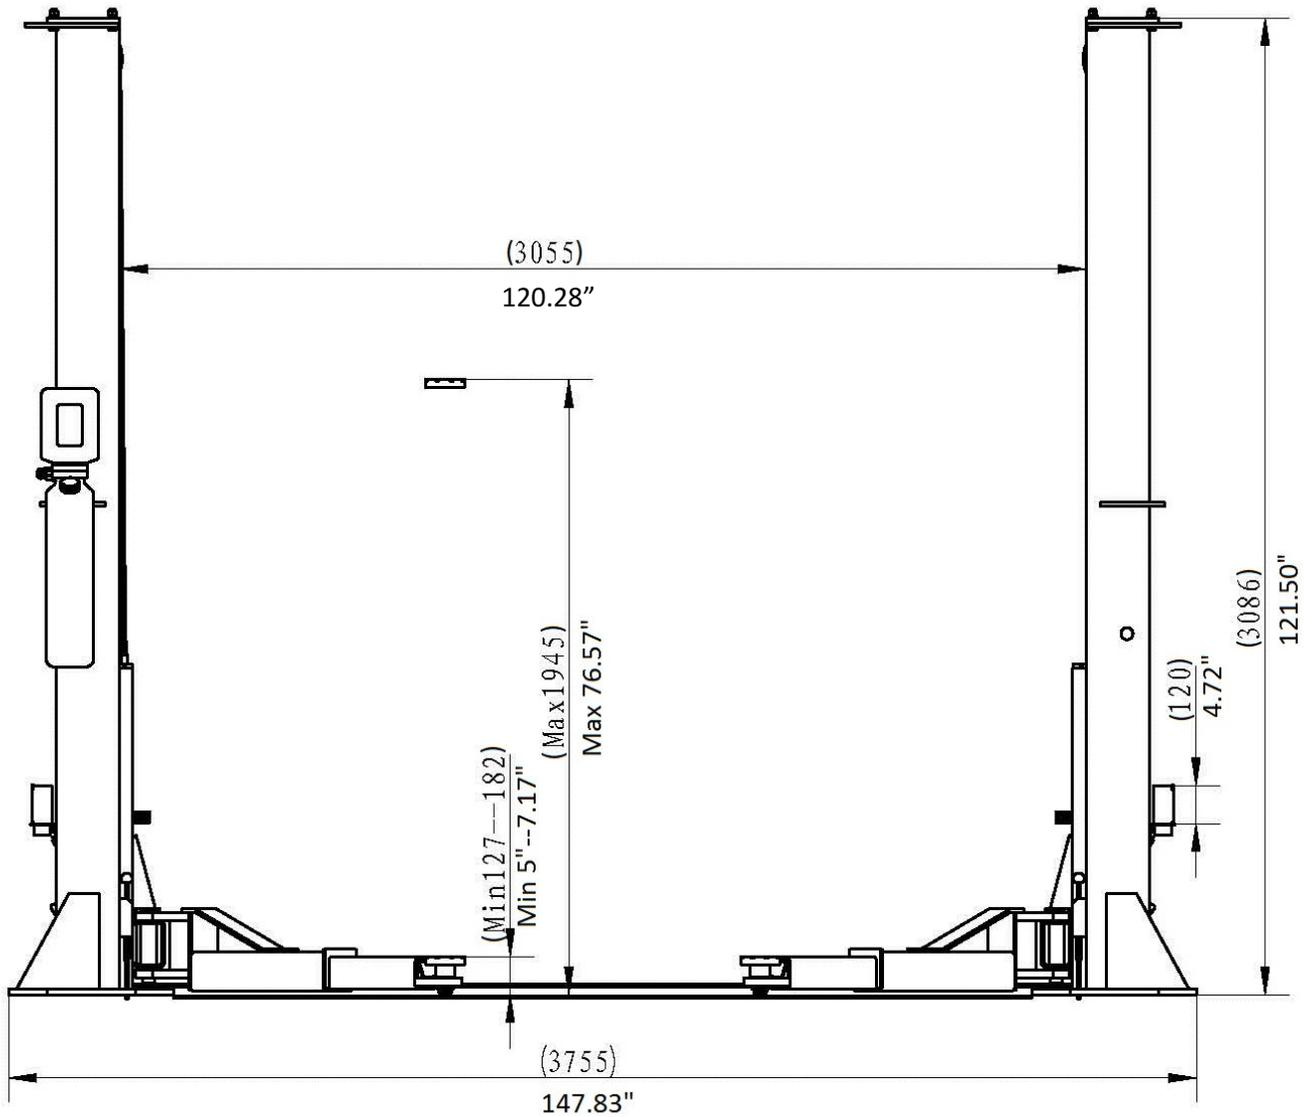
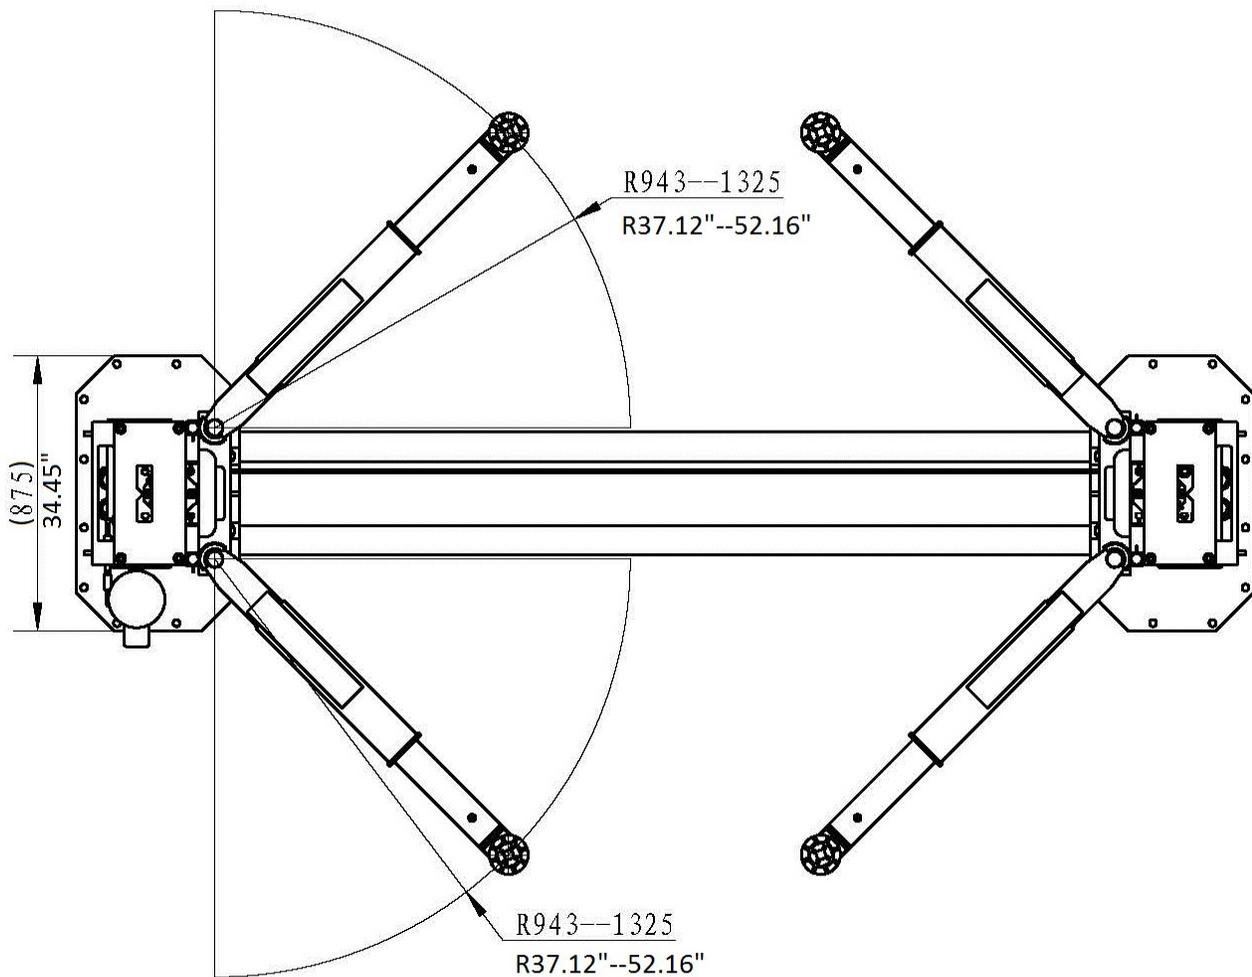

Fig. 2
Fig. 3
1. **LIFT LOCATION:** Always use architects plans when available. Check layout dimension against floor plan requirements making sure that adequate space is available (**Fig. 2 & Fig. 3**).
1. **OVERHEAD OBSTRUCTIONS:** The area where the lift located should be free of overhead obstructions such as heaters, building supports, electrical lines etc. **(Figs 2 & 3.)**